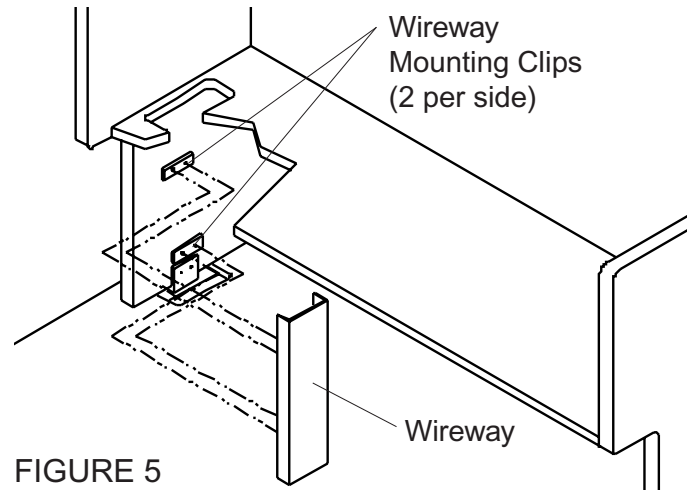

FIGURE 5
18. Attach (2) wireway mounting clips per upright with (2) #10 x 5/8" screws per clip. (Figure 5)
20. Snap wireway onto wireway clips after attaching work surface grommet. (Figure 5)